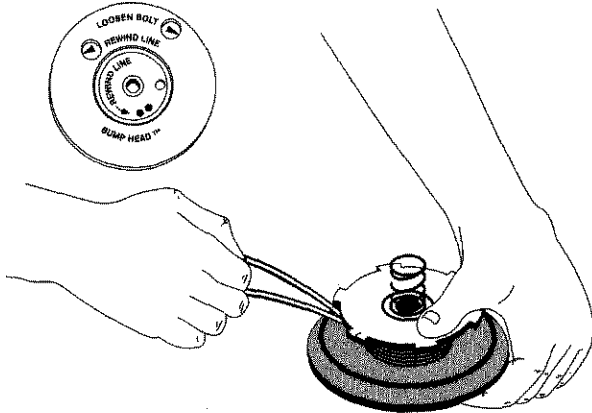

Fig. 19
7. Wind the lines in tight even layers, onto the reel (Fig.19). Wind the line in the direction indicated on the inner reel. Place your index finger between the two lines to stop the lines from overlapping. Do not overlap the ends of the line.